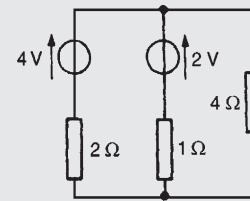

Figure 13.56
**Problem 14.** Use Norton's theorem to determine the current  $I$  flowing in the  $4\Omega$  resistance shown in Fig. 13.56.